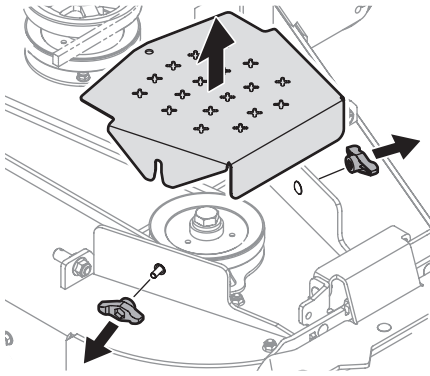

Figure 35
- Clean the top of the mower deck, under the spindle covers and belt area. See Figure 35.